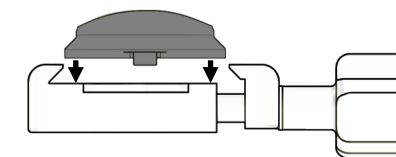

Fig. 2 - Side Load
Step 4: Open the QR clamp The sidekick has an integrated top stop and an optional lower safety Stop screw. These prevent accidental sliding out of the quick release. If you use the lower stop you must open the jaws of the quick-release clamp wide enough to load your lens from the side (instead of sliding it in). See Fig 2 and 3